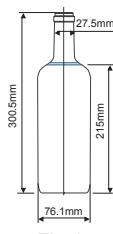
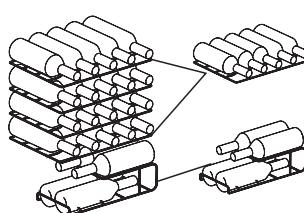
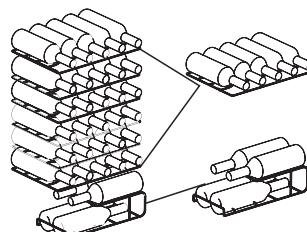

Fig.1
Fig.2
Fig.3
- The capacity for bottle storage in the wine cabinet (MDRW111FGG shown as Fig.2, MDRW150FGG shown as Fig.3 ) is based on the following marked bottle size (Fig.1) . Oversized bottle may have impact on the number of bottle storage in the wine cabinet.
- For model MDRW111FGG: The recommended maximum bottling volume is 24 bottles, as Fig.2
- For model MDRW150FGG: The recommended maximum bottling volume is 34 bottles, as Fig.3